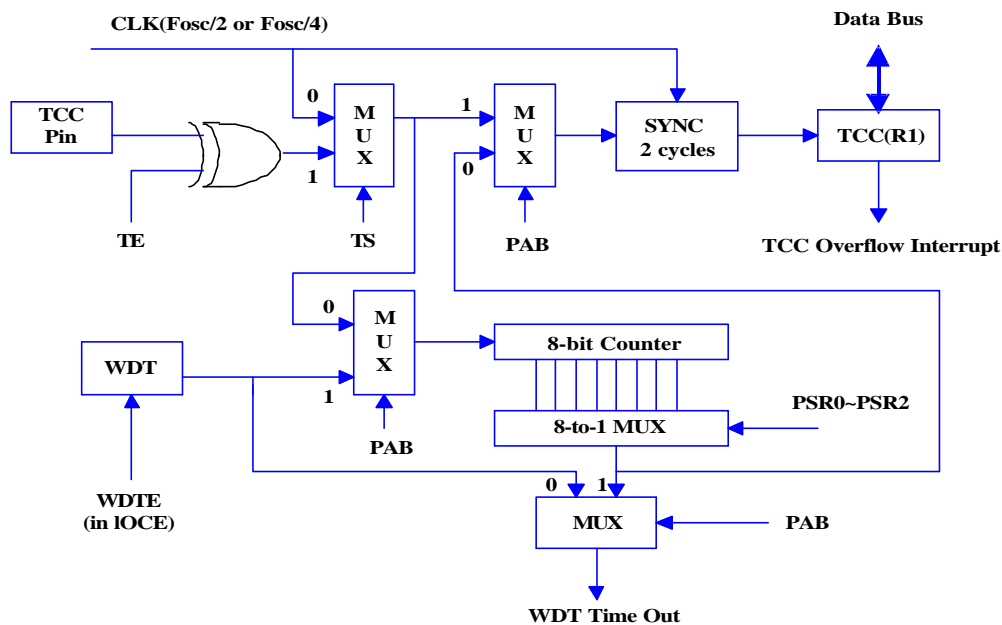

Fig. 5 Block Diagram of TCC and WDT
There is an 8-bit counter available as prescaler for the TCC or WDT. The prescaler is available for either the TCC or WDT only at any given time, and the PAB bit of the CONT register is used to determine the prescaler assignment. The PSR0~PSR2 bits determine the ratio. The prescaler is cleared each time the instruction is written to TCC under TCC mode. The WDT and prescaler, when assigned to WDT mode, are cleared by the "WDT" or "SLEP" instructions. Fig. 5 depicts the circuit diagram of TCC/WDT.
- R1(TCC) is an 8-bit timer/counter. The clock source of TCC can be internal or external clock input (edge selectable from TCC pin). If TCC signal source is from internal clock, TCC will increase by 1 at every instruction cycle (without prescaler). Referring to Fig. 5, $CLK = F_{osc}/2$ or $CLK = F_{osc}/4$, depends on the CODE Option bit CLK. $CLK = F_{osc}/2$ is used if CLK bit is "0", and $CLK = F_{osc}/4$ is used if CLK bit is "1". If TCC signal source is from external clock input, TCC is increased by 1 at every falling edge or rising edge of TCC pin.